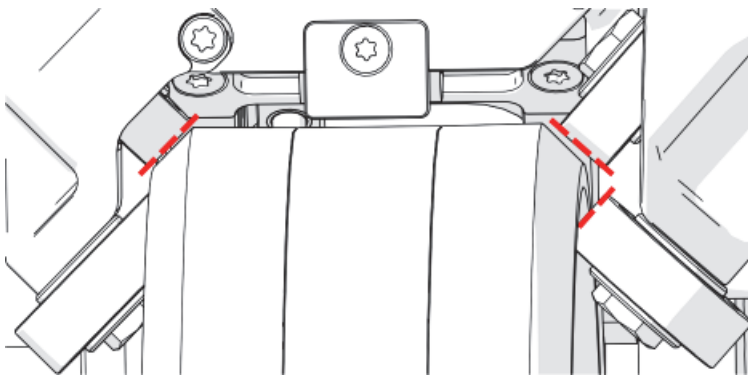

Figure 1-37 Visually inspecting the wheels
7. Visually inspect all eight wheels and ensure they are all touching the band (see Figure 1-37 on page 52). If necessary, reposition or shift the motor carriage while tightening the clamp adjusters.